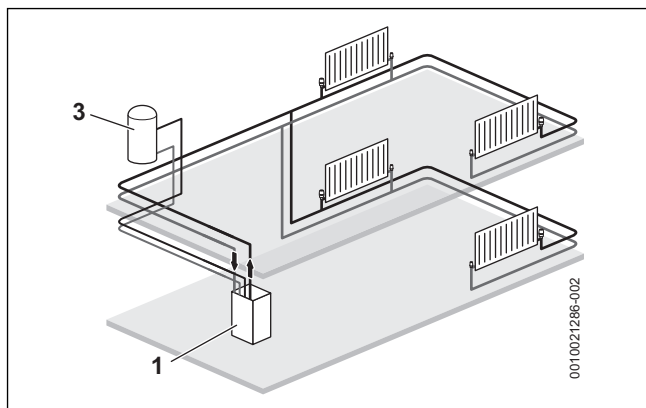

Fig. 9 Example layout - Internal diverter valve kit
In all cases the cylinder manufacturer must be contacted for confirmation their product is suitable for the installation layout shown in figure 9.
- The general layout (figure 9) can be used for unvented cylinder by utilising the high limit thermal cut out of the cylinder dual-thermostat to interrupt the permanent live to the appliance, preventing any heat being produced from the appliance.